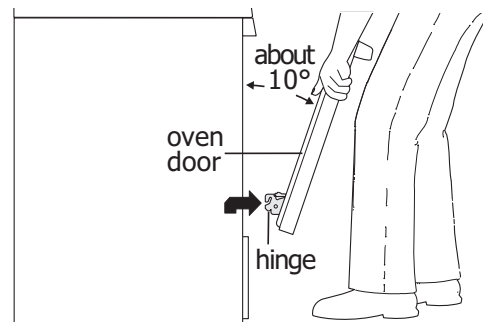
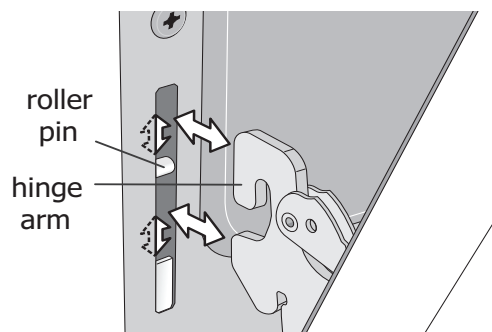

Figure 11: Holding door for removal
Figure 12: Location of hinge arm and roller pin
3. Firmly grasp both sides of oven door along the door sides. Do not use the oven door handle (See Figure 11).
4. Close the door to about 10 degrees from the door frame (Figure 11).
5. Lift the oven door hinge arms over the roller pins located on each side of the oven frame (See Figure 11).
1. Firmly grasp both sides of oven door along the door sides. Do not use the oven door handle (See Figure 11).
2. Holding the oven door at the same angle as the removal position (See Figure 11), seat the hook of the hinge arm over the roller pins located on each side of the oven door frame (See Figure 12). The hook of the hinge arms must be fully seated onto the roller pins.